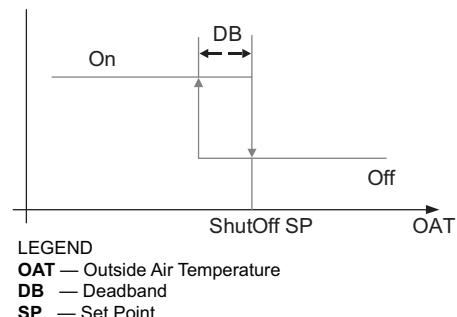

Fig. 55 — Hysteresis Settings
Hysteresis setting (DB) defaults to 2°F (-16.6°C). See Fig. 55.